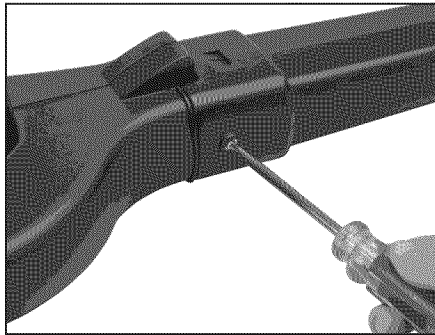

Figure 2- Fasten with mounting screws.
2. Fasten with the two mounting screws. (See Figure 2)